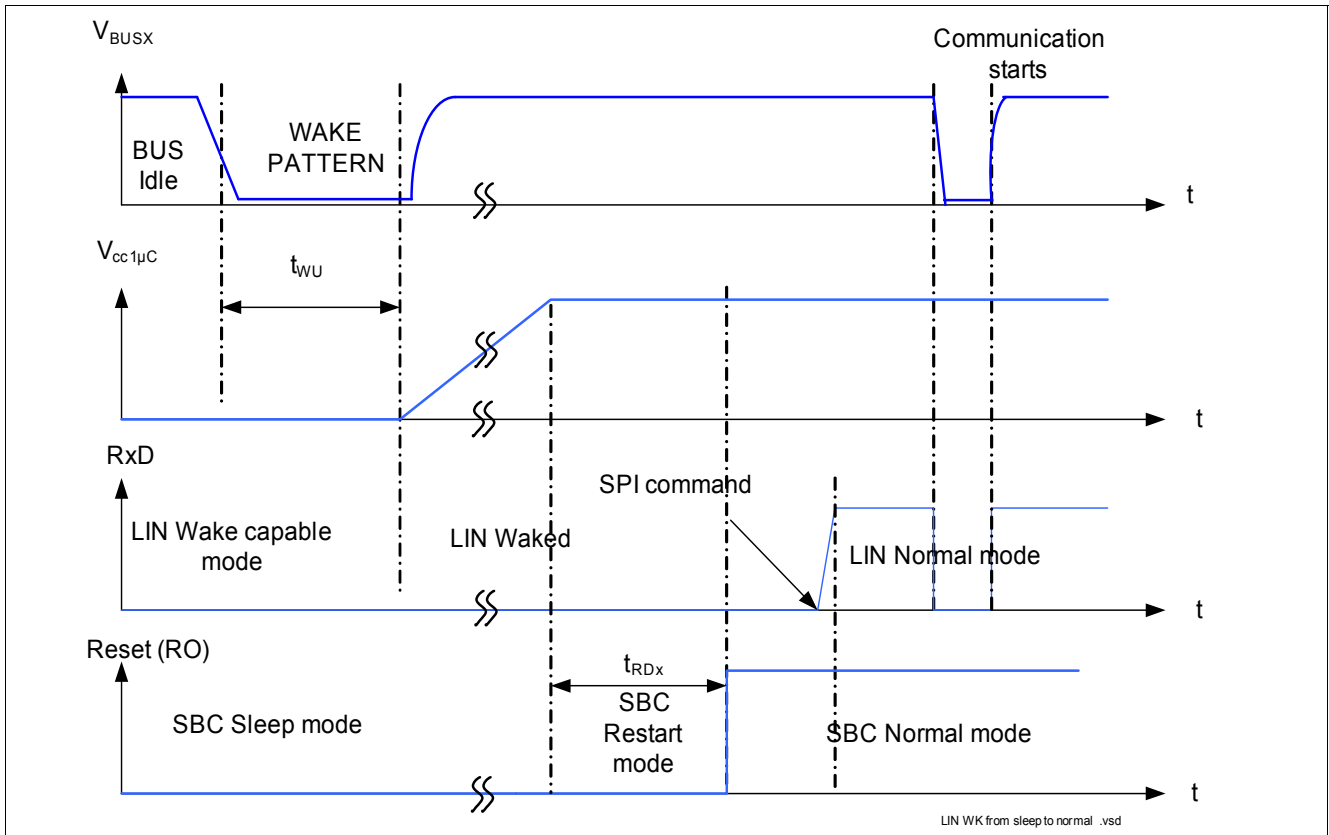

Figure 21 Timing during Transition from SBC Sleep to SBC Normal Mode
Wake-up is possible via a LIN message (filtering time $t > t_{WK,bus}$), it automatically transfers the SBC into the SBC Restart Mode and from there to Normal Mode the corresponding RxD pins in set to LOW, see Figure 21. The microcontroller is able to detect the low signal on RxD and to read the wake source out of the “Wake Register Interrupt” register (000) via SPI. No Interrupt is generated when coming out of Sleep Mode. The μ C can now switch the CAN transceiver into LIN Normal Mode via SPI to start communication.